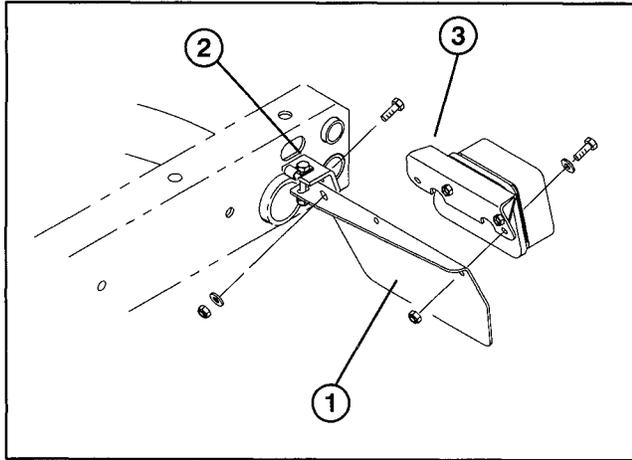

Figure 1
INSTALL REAR FENDERS (Fig. 1 –2)
3. Secure rear of each tail light plate to rear of frame brackets with a 1/4–20 x 3/4" lg. capscrew, .281" I.D. flatwasher and nut, as shown in figure 1.
4. On left side, remove (2) capscrews, washers and nuts securing tail light mounting bracket to tail light plate.